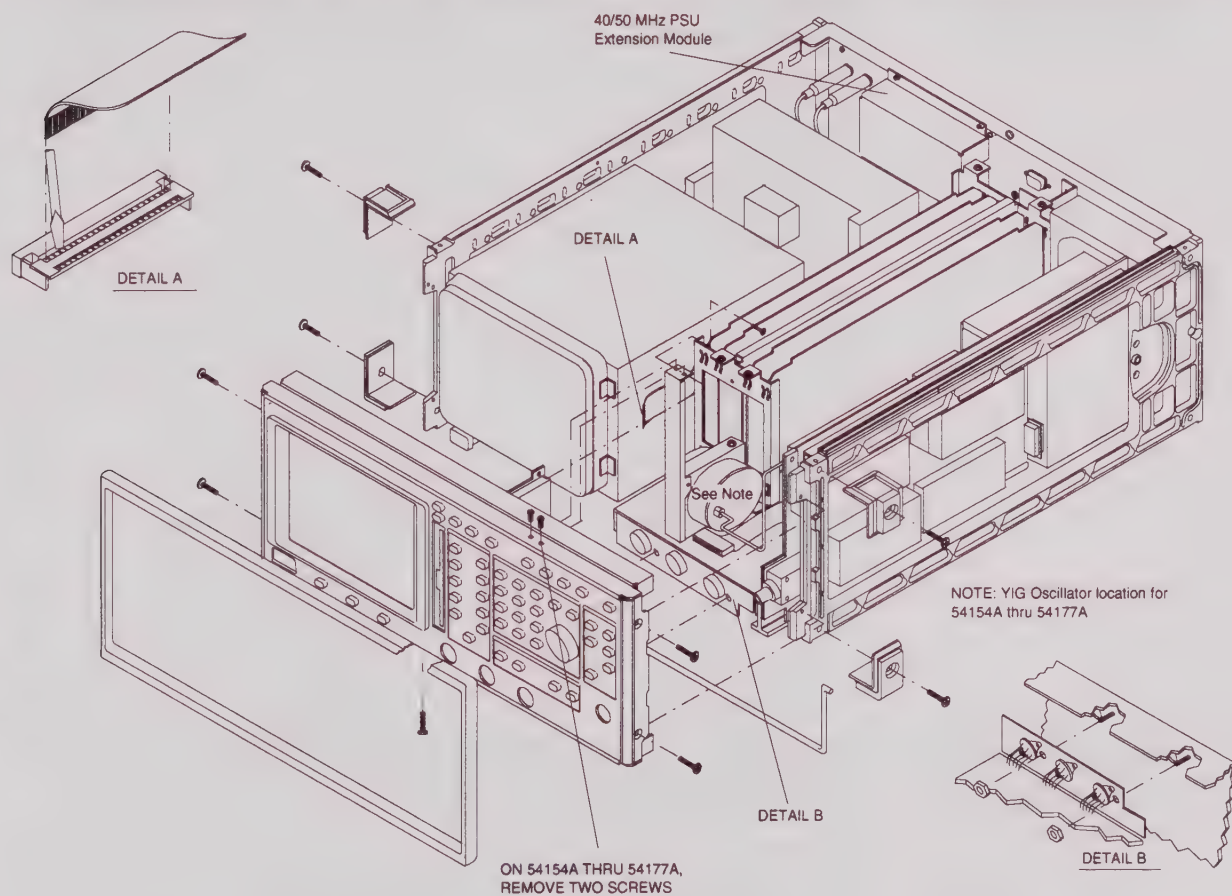

Figure 7-3. Exploded View of Front Panel Assembly
- Step 1.** Orient the 541XXA as appropriate to remove the four corner brackets and tilt bail from the front of the 541XXA (Figure 7-3).
- Step 8.** Remove the two nuts shown in Figure 7-3, Detail B, from the backside of the front panel, using a 1/4 inch nut driver.
- Step 10.** Remove the three screws that fasten the power supply assembly to the chassis side rail (Figure 7-3, bottom).